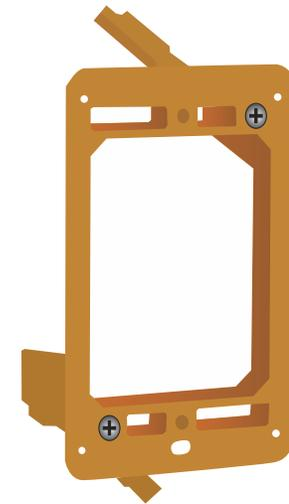

Fig 1. Single-gang, low-voltage mounting bracket.
1. Cut an opening in the wall of the isolation room to receive the supplied single-gang "old work" low voltage mounting bracket (Figure 1) for the remote sensor module. Nominal dimensions for the cutout are 3.65" H x 2.15" W. Drill a 7/16" hole through the opposite wall for the flow tube.
1. Cut an opening in the wall adjacent to the door of the isolation room for installing the supplied single-gang “old work” low voltage mounting bracket (Figure 1) for the touch-screen display module. Nominal dimensions for the cutout are 3.65” H x 2.15” W.